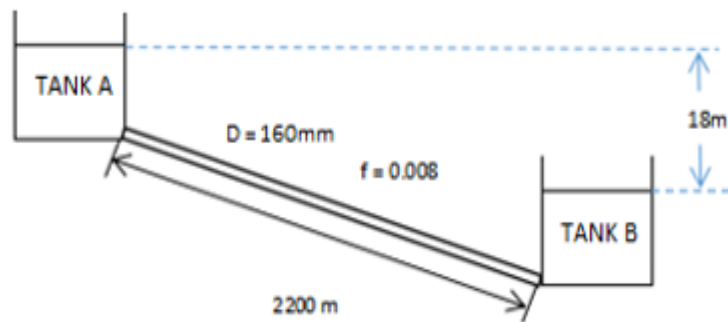

Figure 3(c) / *Rajah 3(c)*
- (c) A large tank A supplies water to tank B through a pipe with a length of 2200 m and a diameter of 160 mm, as shown in Figure 3(c). The height difference of the water levels in both tanks is 18 m. Considering all head losses, calculate the water flow rate in the pipe if the friction factor,  $f=0.008$ .